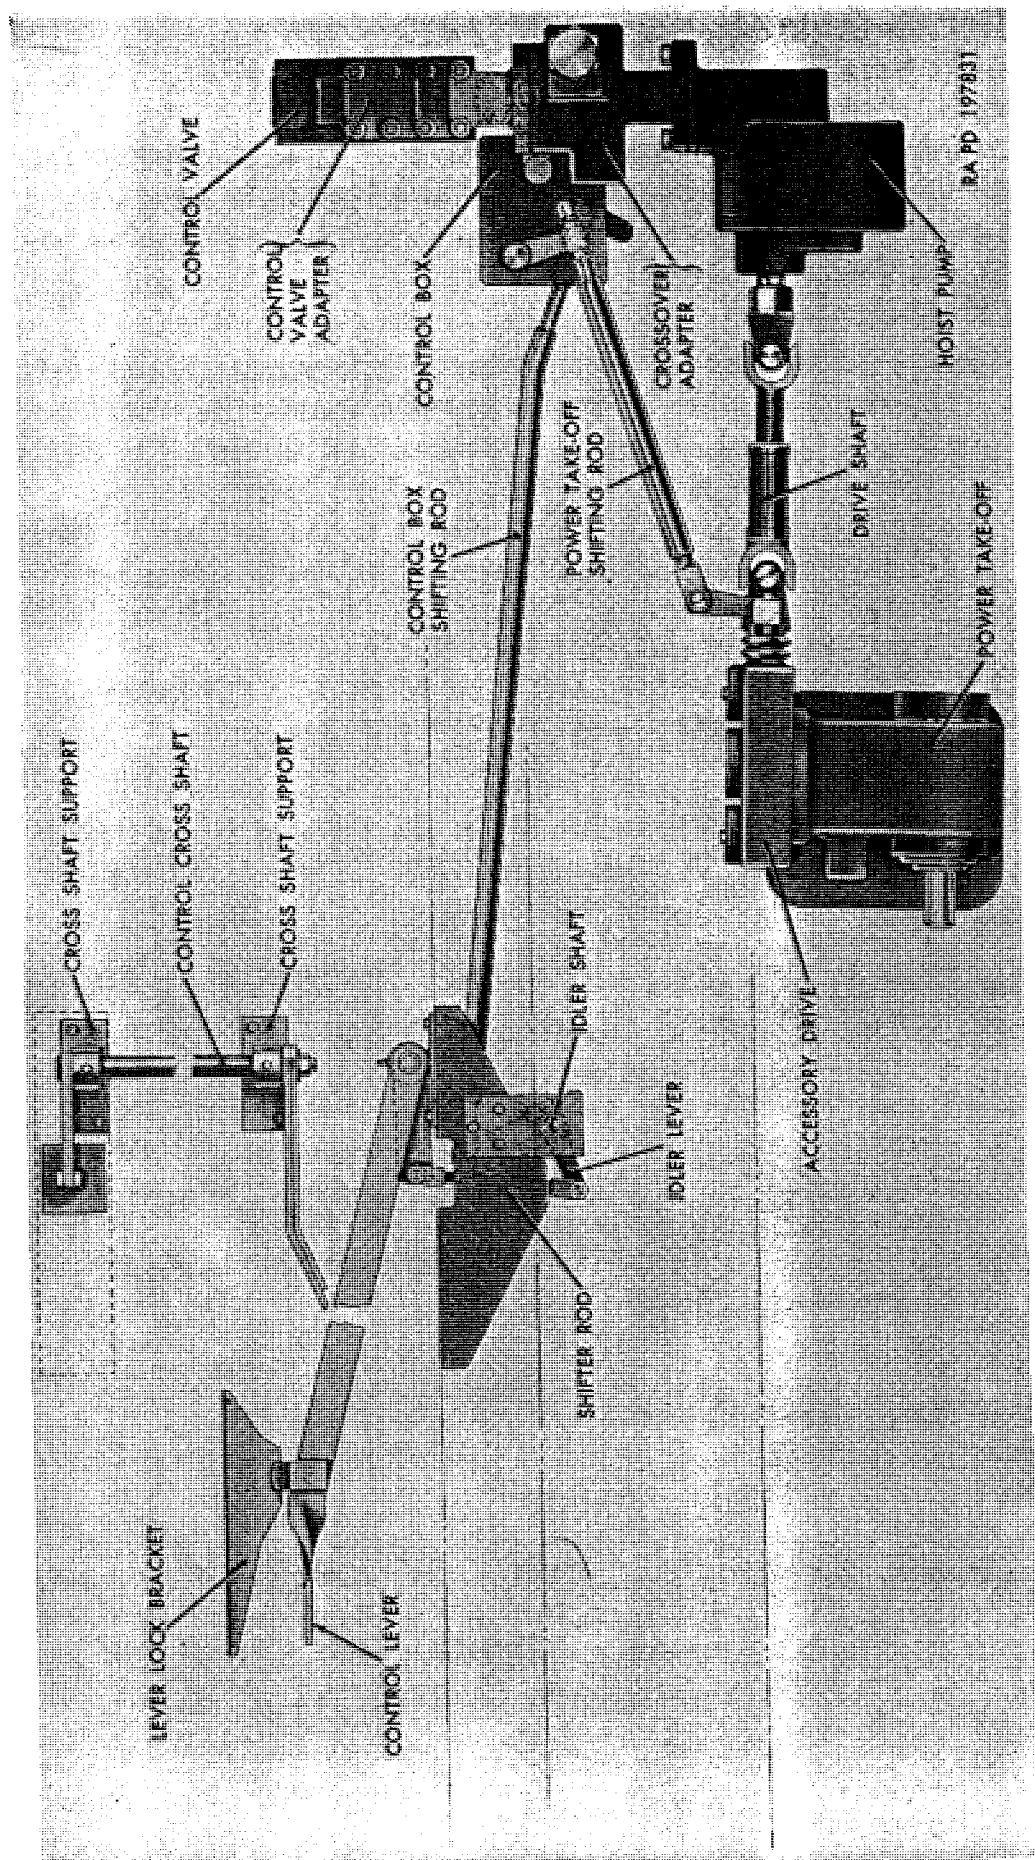

Figure 360. Power-take-off and hoist control linkage arrangement.
a. General. Power-take-off control lever (fig. 360) in cab is interconnected to control box, control valve, and power-take-off accessory drive with linkage. Power-take-off control lever can be placed in varied positions to operate hoist as described in paragraphs 50 and 51.
- (1) *Removal.* At cab left panel, remove two nuts (T) and cap screws (U) attaching control lever lock bracket (V) to panel. Remove bracket.